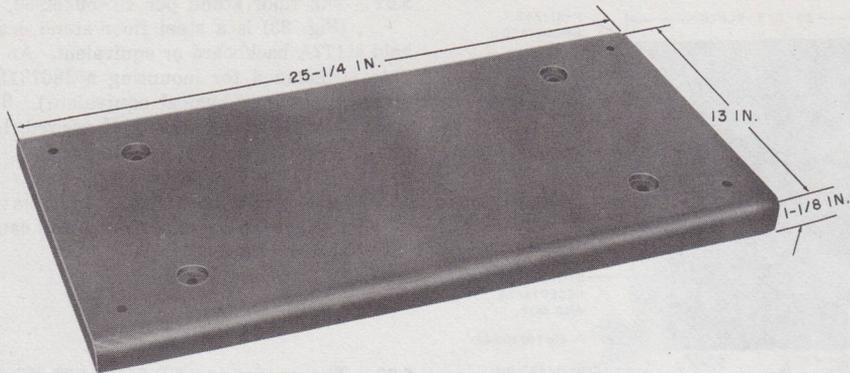

Fig. 25—Insulating Base Per ED-91180-70
3.07 The insulating base per ED-91180-70* (Fig. 25) is a wooden base for 11- and 18-plate cabinets. An insulating base per ED-91472-70,* similar to the one shown here, is used as a backboard for the 4-plate apparatus cabinet or as a base for the floor-mounting stand per ED-91296-01*.